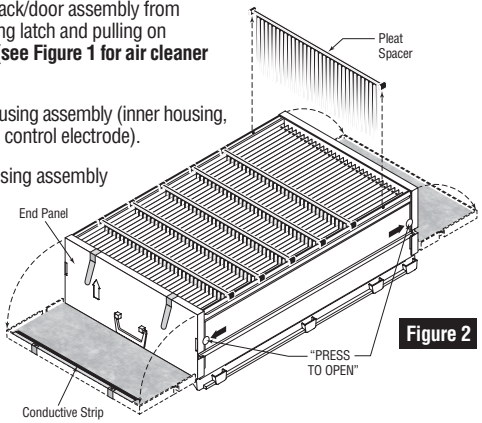

Figure 2
**Step 3:** Lay the inner housing assembly on a flat surface so pleat spacers are visible (see Figure 2).
**Step 4:** Remove pleat spacers by rotating and lifting both ends (see Figure 2).
**Step 5:** Open both end panels by pressing buttons labeled "Press to open" (see Figure 2).